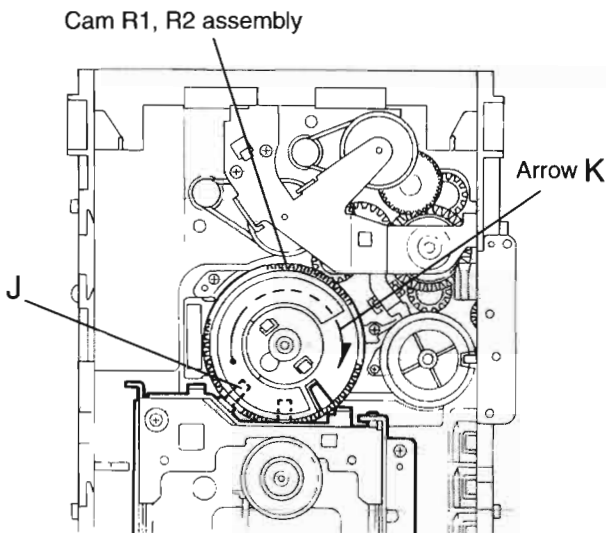

Fig.11
Removing the CD traverse mechanism (See Fig.11 and 12)
1. For dismantling only the CD traverse mechanism without removing the CD loading mechanism assembly, align the shaft "J" of the CD loading mechanism assembly to the position shown Fig.11 while turning the cam R1 and R2 assembly in the arrow direction "K" .